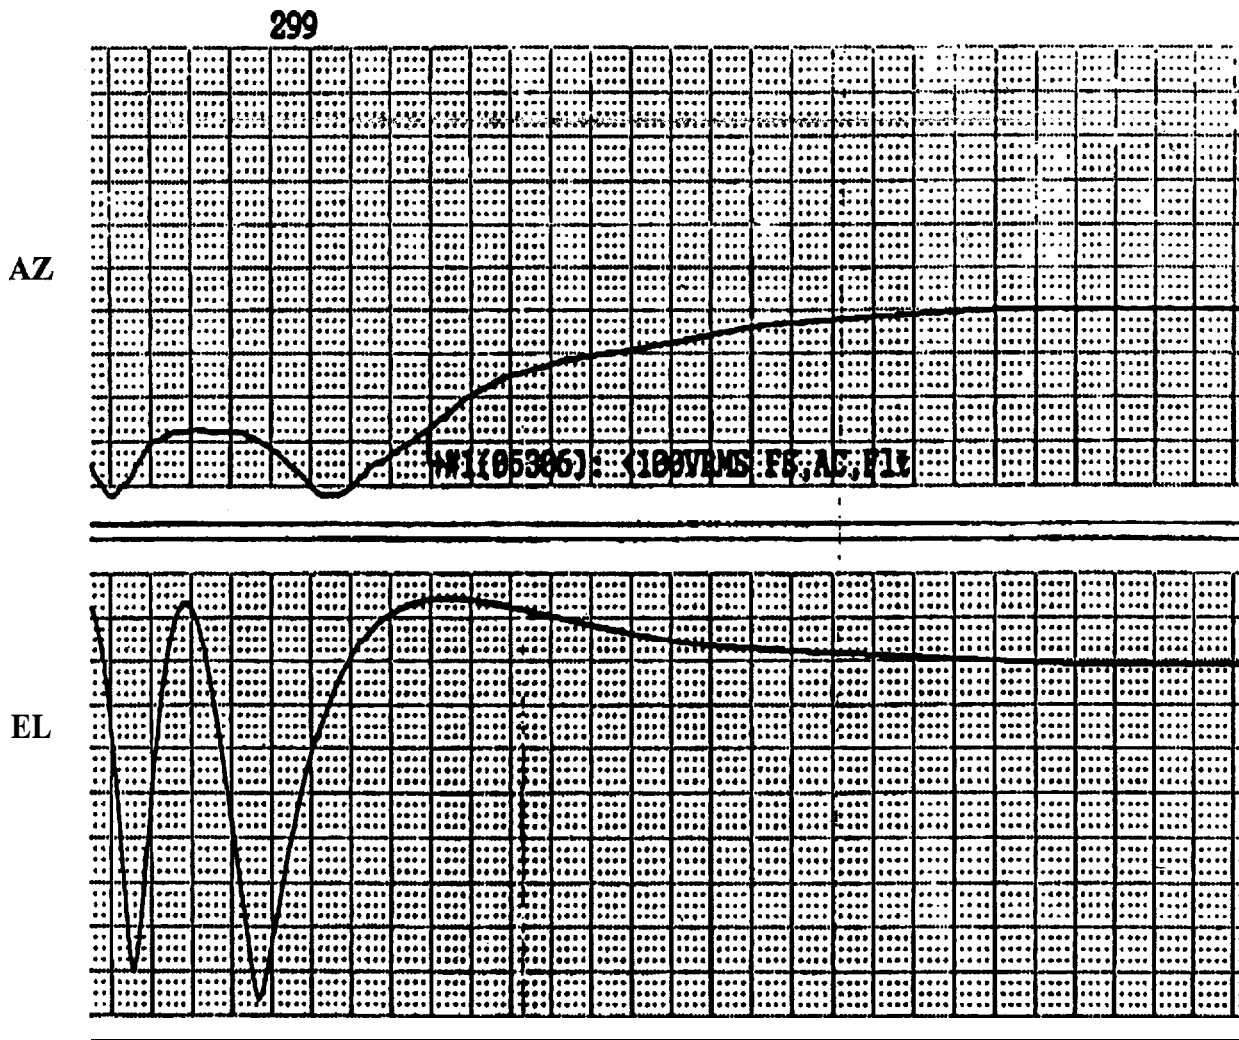

Figure 5-7 Elevation Tachometer Gain High
5.13 Elevation Tachometer Gain High - In the referenced figures, we manually positioned the antenna 2 degrees off the target antenna and allowed the system to automatically track back to the target antenna in near auto. Figure 5-7 shows the effects of high elevation tachometer gain. Note how long it takes for the system to track back to the target antenna.